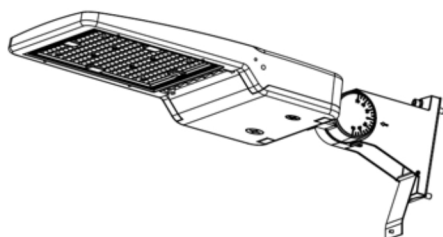

Fig. 14
4. Open the Arm cover and pull the wires into the junction box (supplied by others) shown in Fig.14